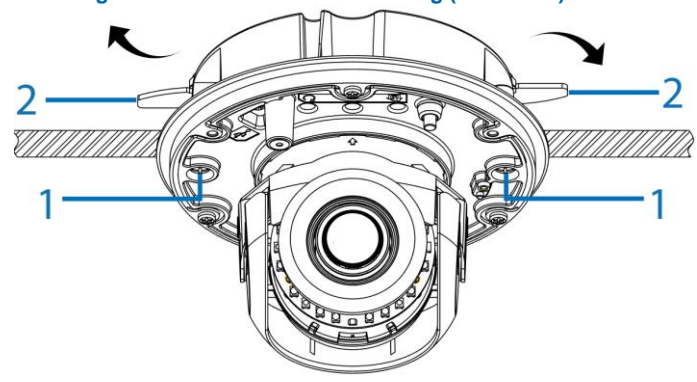

Figure 6
8. Use a cross screw driver and turn both captive screws (1) (Figure 6) on the camera clockwise to extend out the locking arms (2) (Figure 6), then rotate the two captive screws anti-clockwise until the locking arms sit securely to the ceiling.